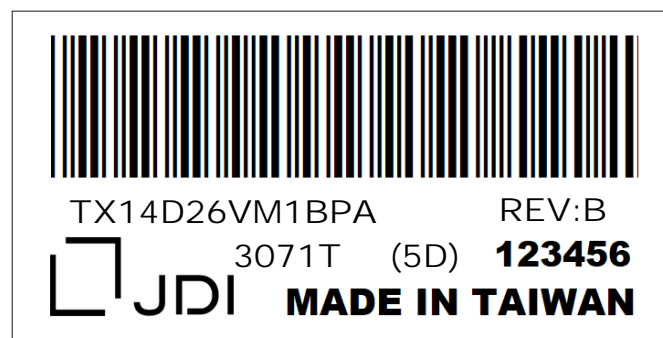

Fig. 14.1
- 1) The lot mark is showing in Fig.14.1. First 4 digits are used to represent production lot, T represented made in Taiwan, and the last 6 digits are the serial number.
- 4) The location of the lot mark is on the back of the display shown in Fig. 14.1